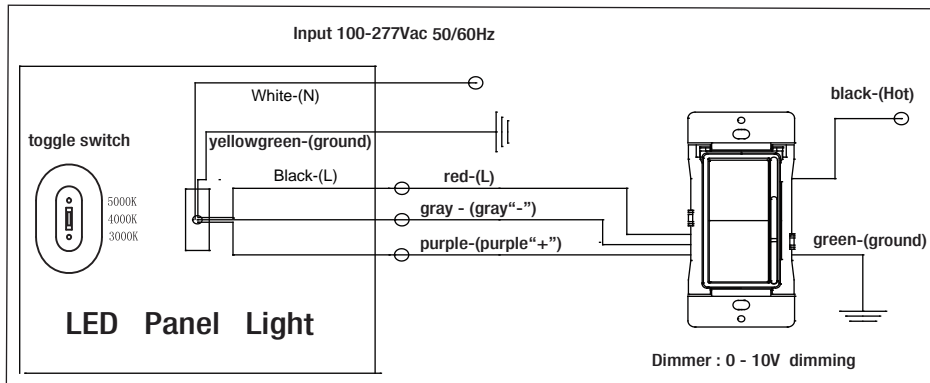

Figure 6
STEP 4 Refer to Figure 6 to properly wire panel light.